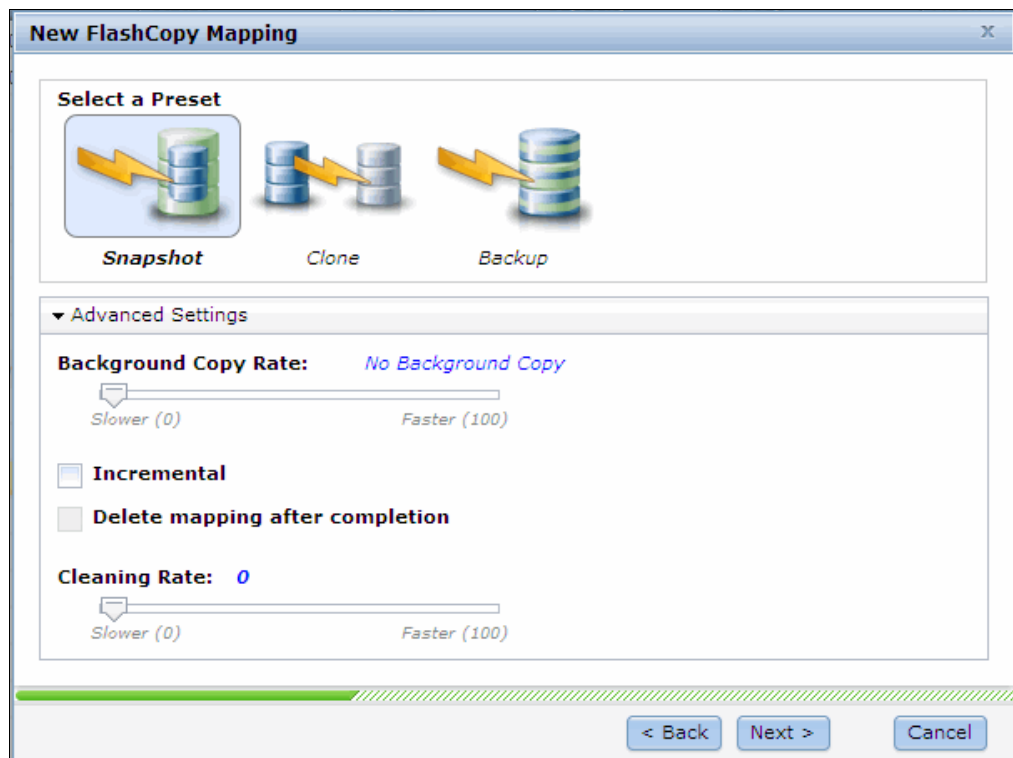

Figure 10-28 Select a preset and make your adjustments
4. Select the preset and (if necessary) adjust the settings by using the Advanced Settings section as shown in Figure 10-28. (For more information about the advanced setting, see “Creating target volumes” on page 468.) Confirm that the settings meet your requirements and then click **Next**.